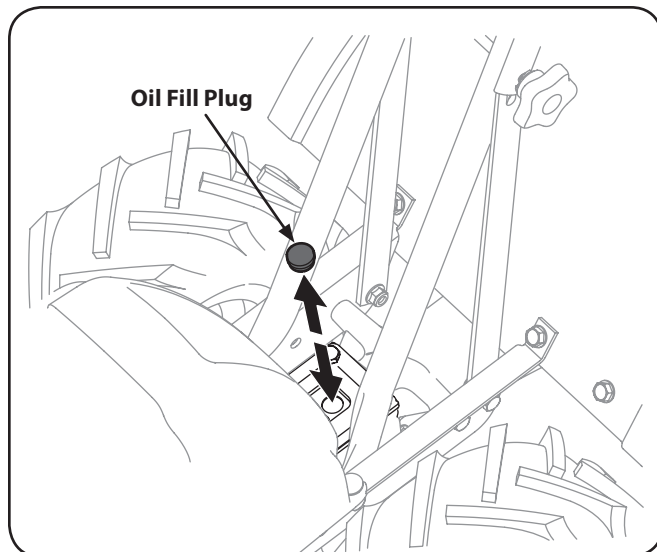

Figure 6-2
3. Clean the area around the oil fill plug. See Figure 6-2.
4. Remove the oil fill plug from the transmission housing and look inside the oil fill hole to locate the main drive shaft situated below the hole. See Figure 6-2.